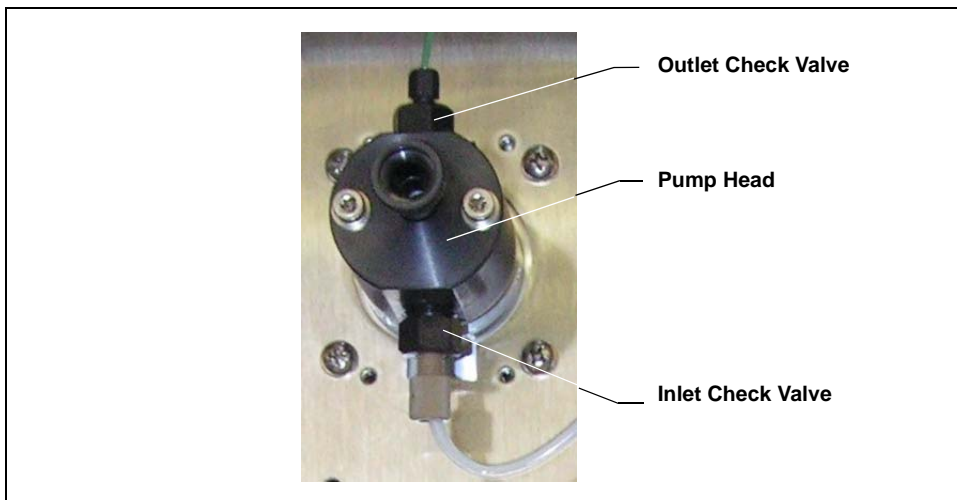

Figure 10-1. Pump Head
3. Disconnect the tube fittings from the inlet and outlet check valve assemblies on the pump head (see Figure 10-1).
1. Rinse the pump flow path with deionized water turning the waste valve knob (see Figure 10-1) one-half turn counterclockwise. This opens the waste valve and directs the flow to waste.